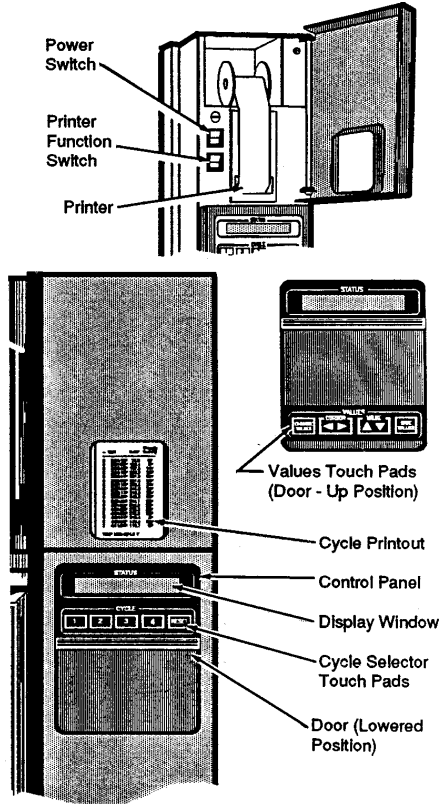

Figure 4-4. Turn Power On
4.4 Automatic Operation: Express Cycle (Wrapped Instruments) (See Figure 4-4)